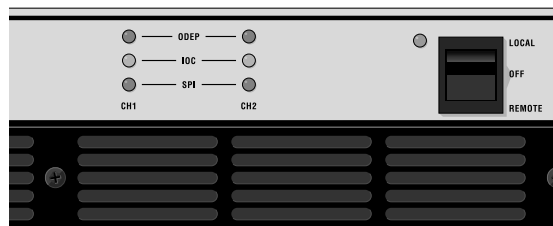

Fig. 4.1 Indicators
3. Turn on the Enable switch. The Enable indicator should glow. During the four second turn-on delay which immediately follows, the indicators will flash as described in Figure 4.1. After the delay, the ODEP indicators should come on with full brilliance and the IOC and Signal Presence Indicators should function normally.